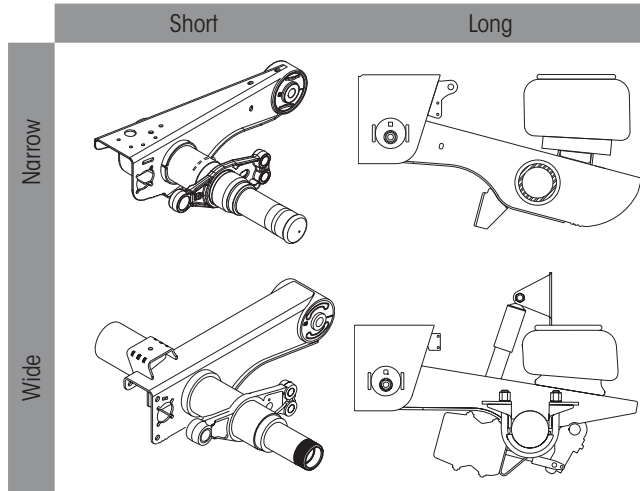
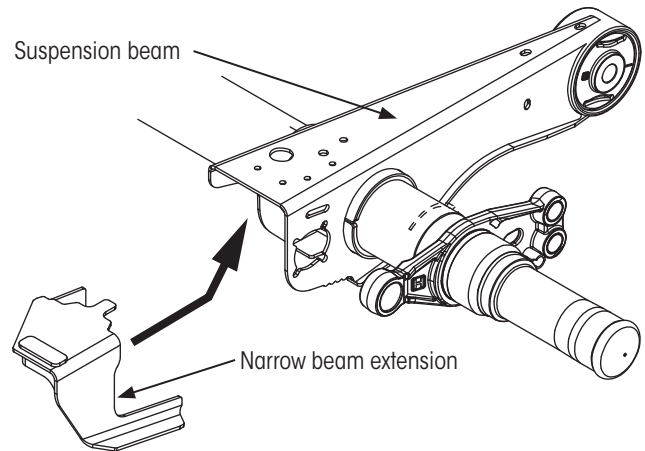
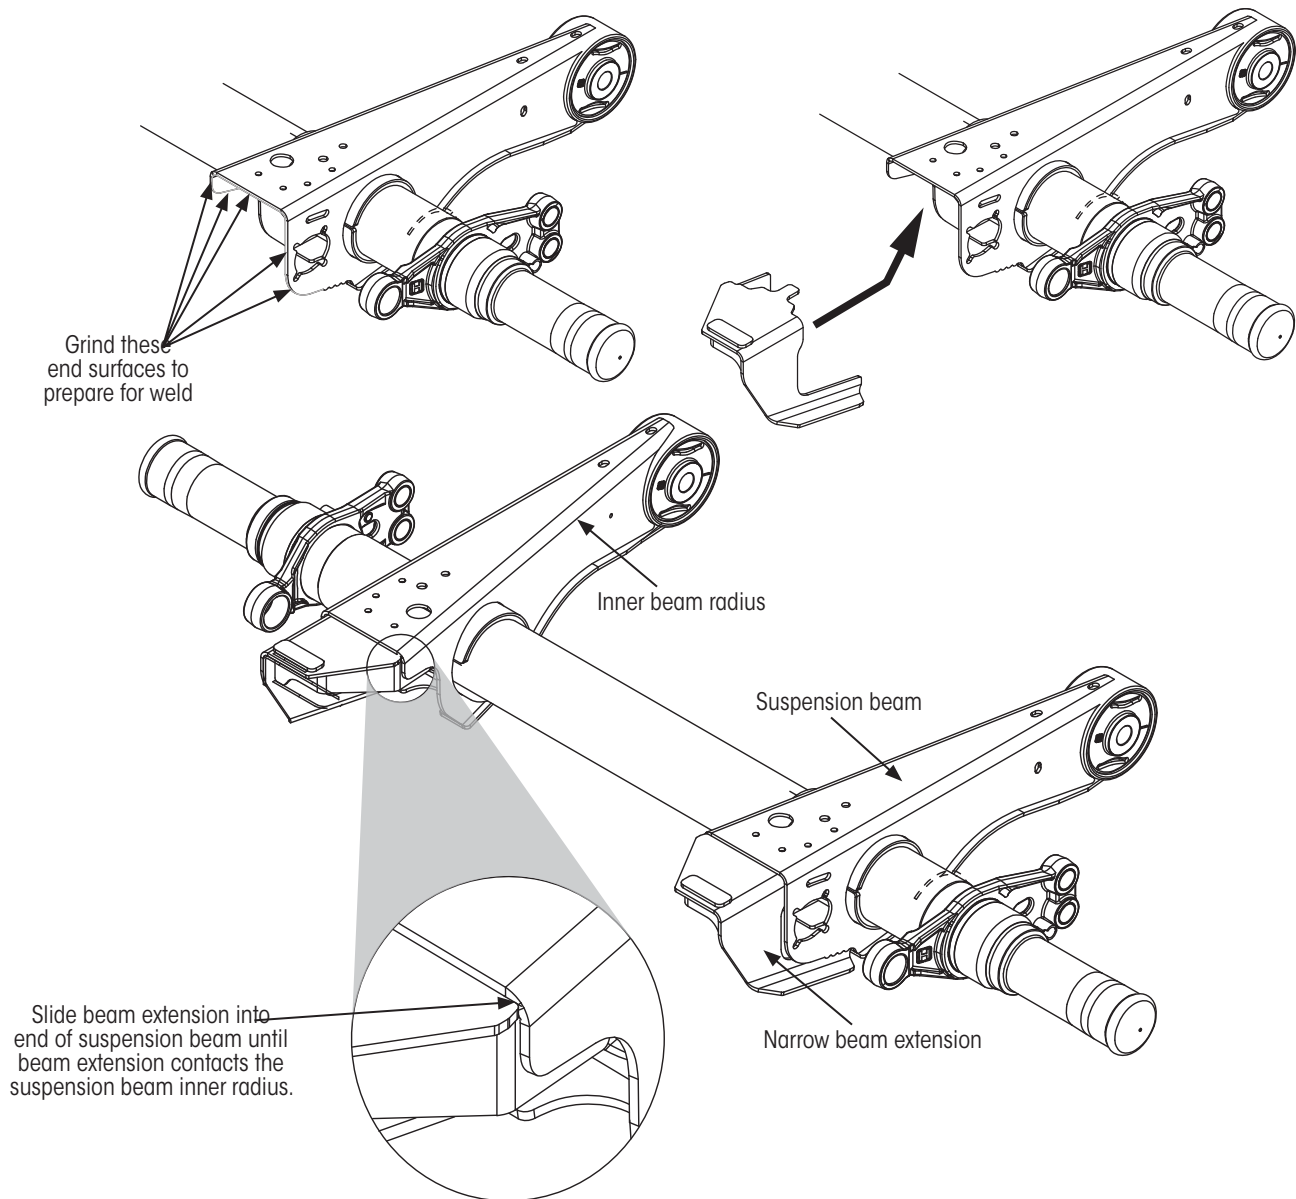

Figure 61: Suspension beam types
Figure 64: Narrow suspension beam with beam extension
Figure 65: Prepping narrow suspension beams for welding and installing the beam extensions
If installed as an aftermarket SURELOK® kit, existing suspension beams are likely standard suspension beams which are too short (Figure 61) to extend below the SURELOK lock assembly arms. In this case the specified kit should include beam extensions, which are installed according to the applicable procedure defined in this section and in the included installation drawing1.
The steps in this procedure apply to all INTRAAX® AANT and VANTRAAX® HKANT narrow bushing suspensions with standard suspension beams (Figure 61 and Figure 64) and no SURELOK currently installed.
1. **Prepare** the ends of each rear suspension beam for welding (Figure 65). Using a grinder, remove paint, debris and all foreign material from the ends of each rear suspension beam.
2. **Slide** a beam extension into the end of the rear suspension beam as far as it will go. It is designed to be self positioning. Make sure the entire extension is inside the suspension beam as shown in Figure 64 and Figure 65.
3. Using a C-clamp or other suitable device, **temporarily clamp** the extended tab of the extension to the inside top surface of the suspension beam. The extension must be parallel with the top of the suspension beam (Figure 65).